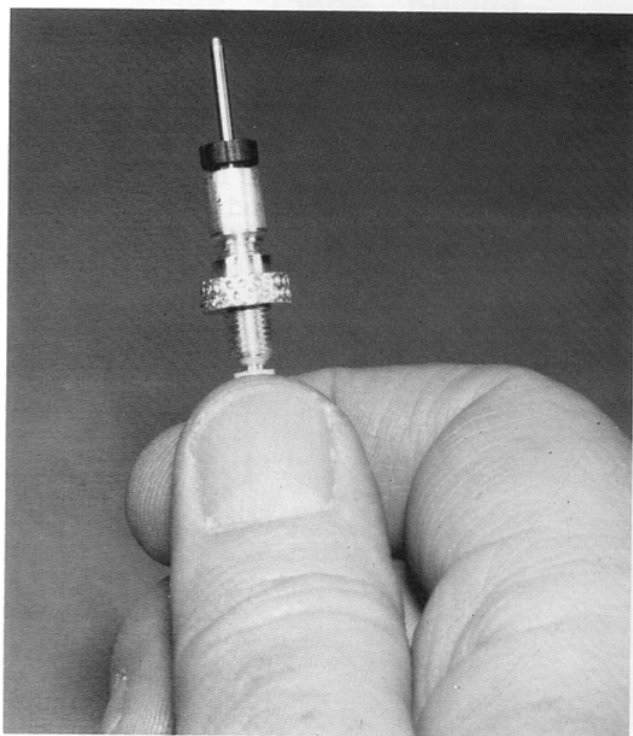

Fig. 44
□ **Figs. 44 & 45**—Push the piston and shaft assembly slowly down into the cylinder. Trim the flash off of the plastic end cap. Now slip the spring and plastic end cap onto the shaft. BE CAREFUL HERE. Screw the plastic end cap only two turns into the cylinder, SLOWLY, as shown in Fig. 44.